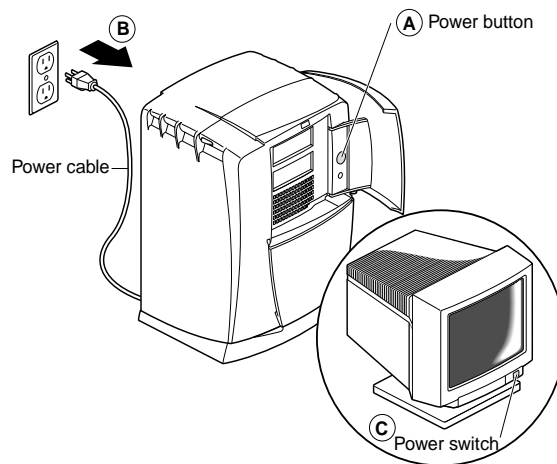

Figure 3 Powering Off the Workstation
1. Open the cover and push the power button (see A in Figure 3) to power off your workstation.
2. Unplug the power cable (B).
3. Press the monitor power switch (C) to power off your monitor.